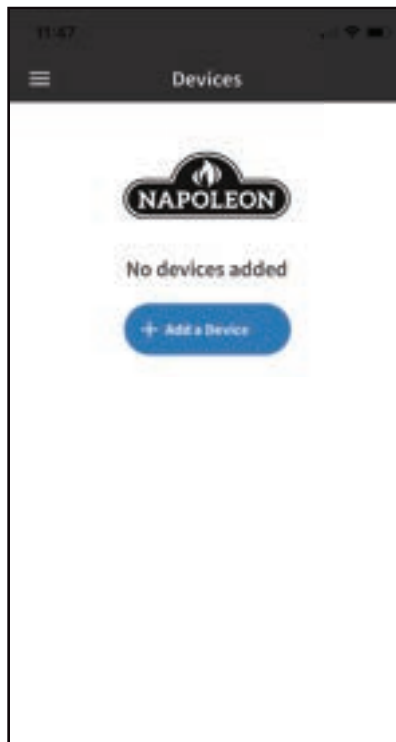

Fig. 3
3. Select "Add Device" and accept permissions **(Fig. 3 & 4)**.